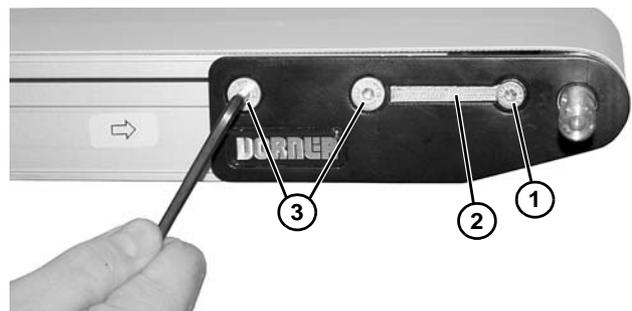

Figure 60
2. On one side of the conveyor, remove screw (Figure 60, item 1) and remove dust cover (Figure 60, item 2), if installed.
3. Remove two fastening screws (Figure 60, item 3).